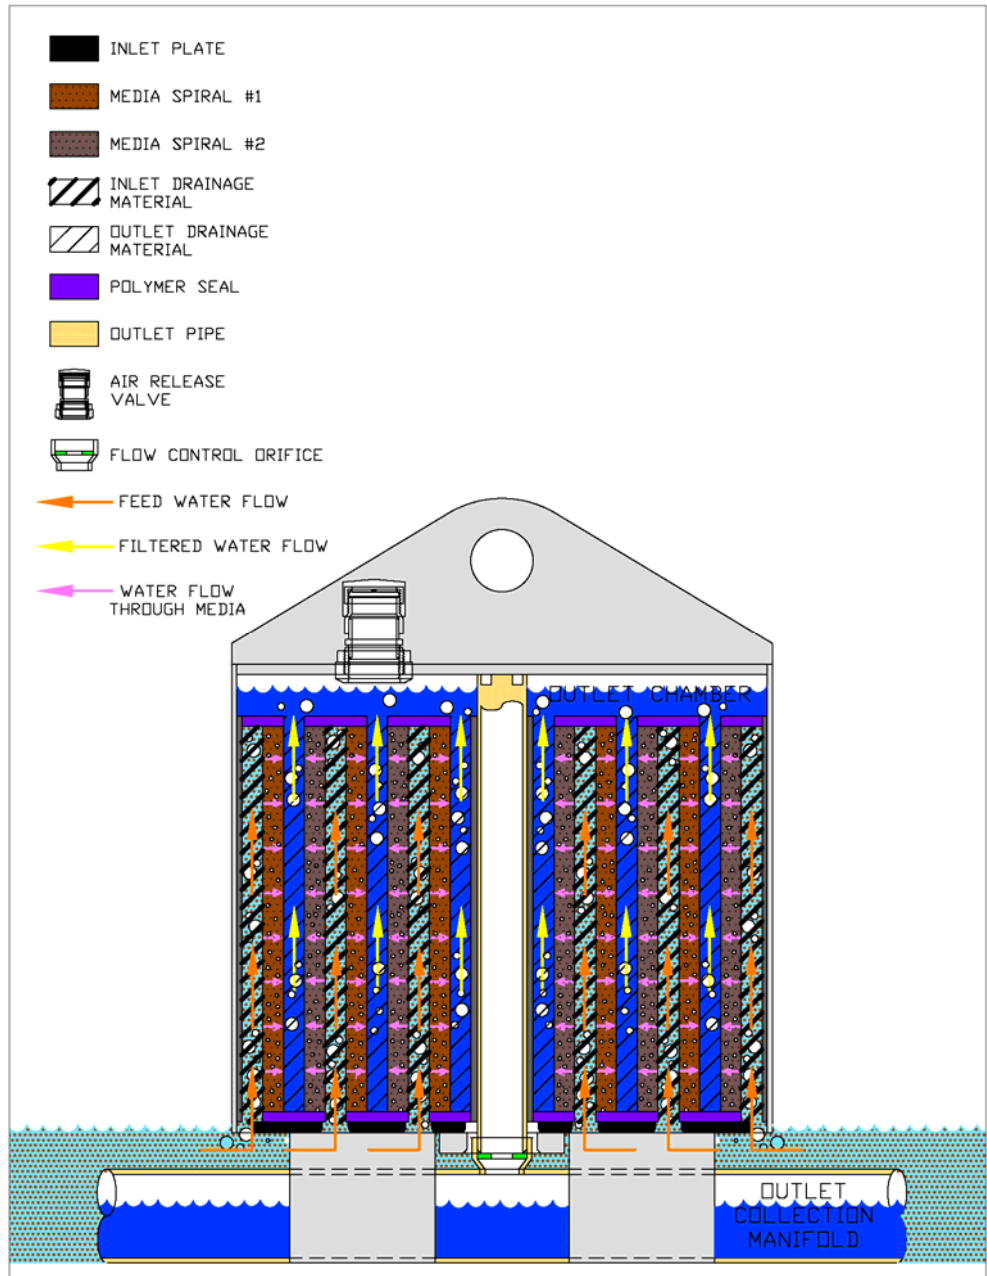
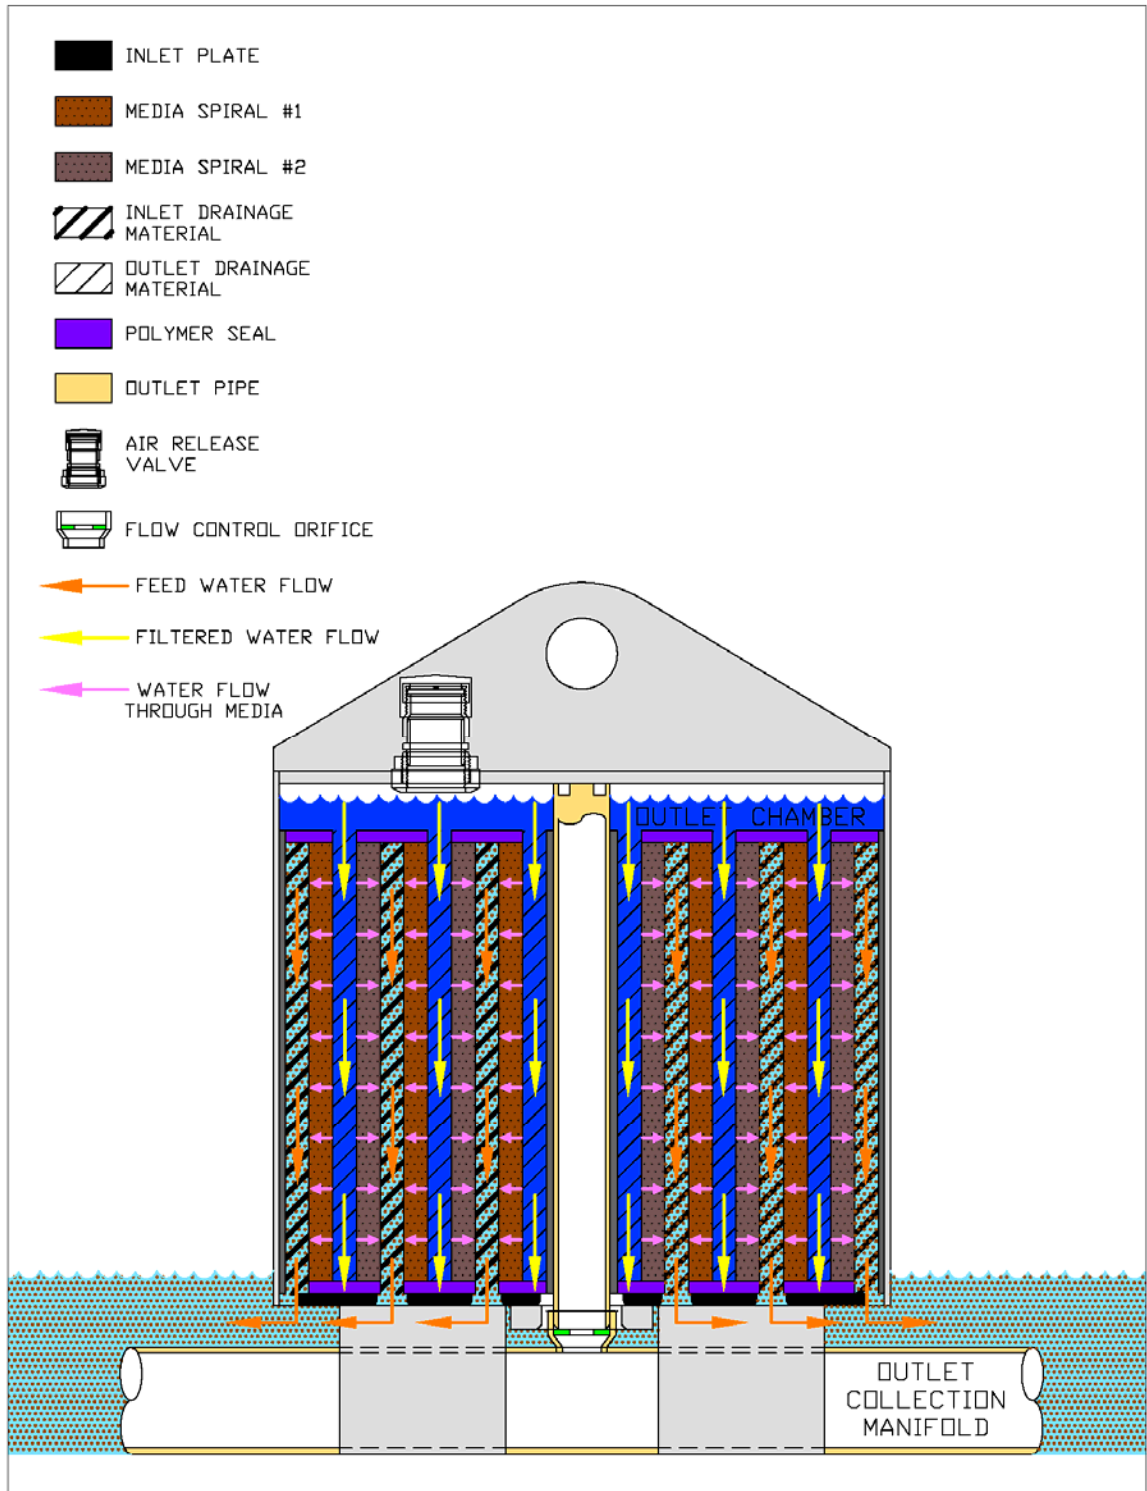

Figure A-4: Siphon Break
Figure A-5: Hydrodynamic Backwash
D. When air enters the filter, the siphon breaks (Figure A-4), and a gravity-driven backwash occurs with all of the water flowing from the outlet chamber backwards through the filter (Figure A-5). This backwash has the effect of dislodging particles captured in the filtration layers and re-establishing porosity. Dislodged particles are transported by the backwash and accumulate on the vault floor.